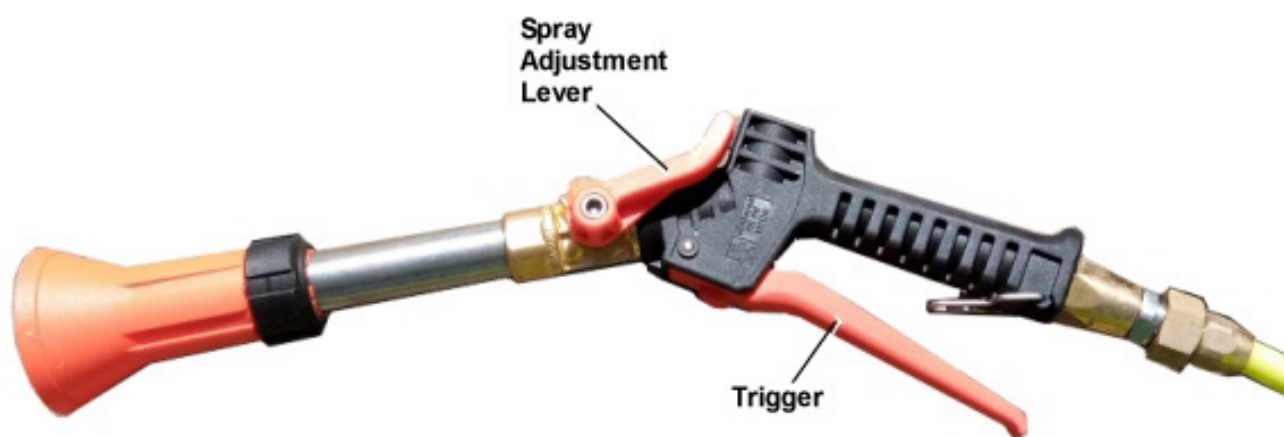

Figure 4 – Spray Gun (typical)
10. Aim the hose's spray gun in the required direction and squeeze the trigger. Adjust the spray pattern by operating the lever on the spray gun handle, refer to Figure 4.